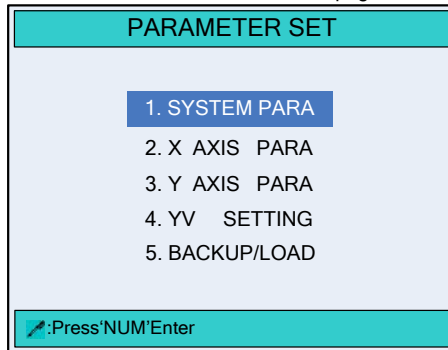

Figure 3-5 The PARAMETER SET page
Step 3 Move the cursor to parameter **mm/inch** or **中文/English**, enter the password **14789**, and press  to enter the **PARAMETER SET** page, as shown in Figure 3-5.